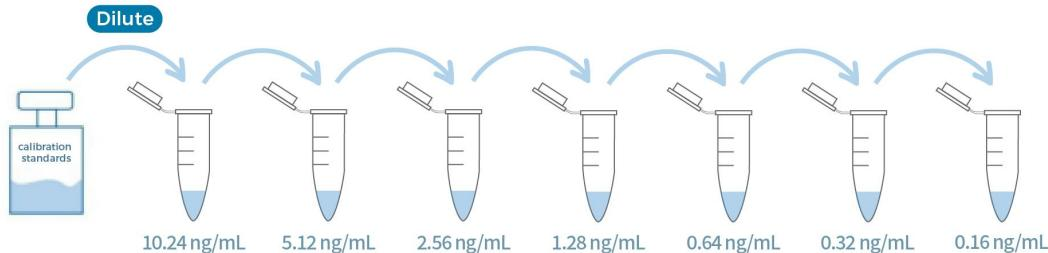

Figure 3. Graphic scheme of Trypsin-analog Calibration Standard Solutions
- Prepare Trypsin-analog Calibration Standard Solutions as indicated in Fig 3 and Table 2.